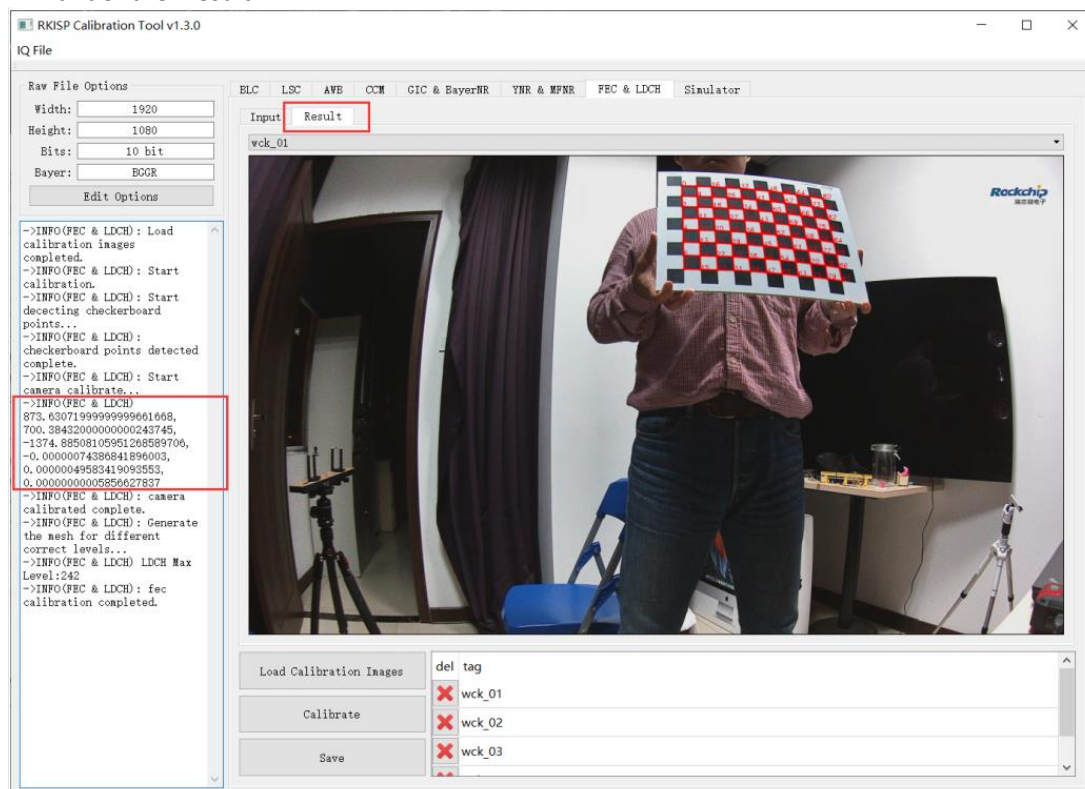

Figure 4-7-3-1
2. If the calibration is successful, the result shown in Figure 4-7-3-1 will appear. We can view the calibrated distortion parameters in the “log” on the left. The meanings of the six parameters from top to bottom are: the center coordinates of the camera (cx, cy), camera distortion parameters (a0, a2, a3, a4).